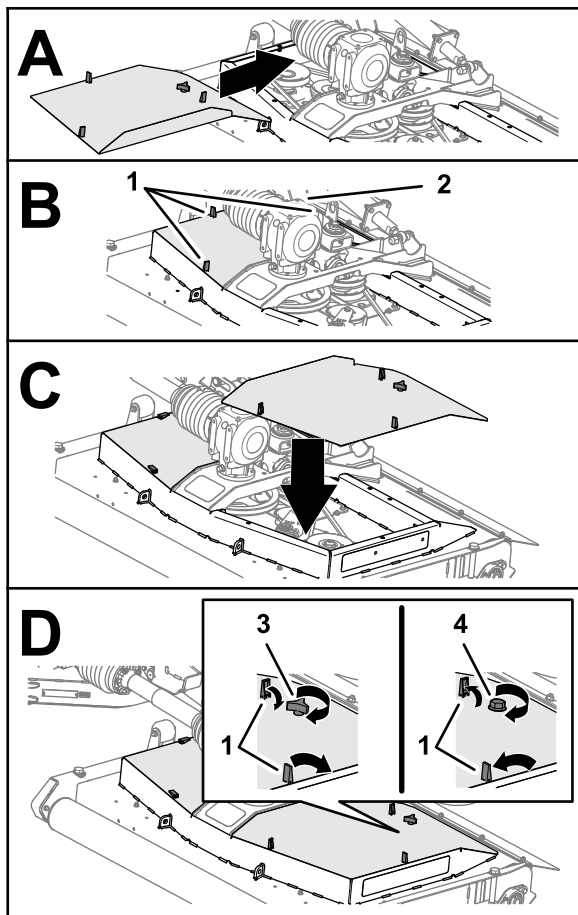

Figure 41
1. Align the latches of the mower-deck cover with the holes in the mower deck (Figure 41).
2. Assemble the deck cover to the mower deck (Figure 41).
3. Secure the cover (Figure 41) as follows:
4. Secure the 3 latches of the cover to the mower deck (Figure 41).
5. Repeat steps 1 through 4 for the other covers that you removed (Figure 41).